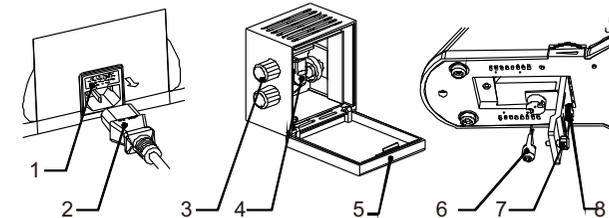

Fig.17
- (1) Turn off the power switch, and unplug the power cord2, as shown in Fig.17.
- (2) Wait at least 30 minutes until the bulb and its surroundings have cool down. This is to prevent hand getting burnt by heat.
- (3) a. Take out the screws6, and pull out the lamp house cover, take out the bad bulb4, and place the new one.
- (4) Connect the power cord and turn on power switch.
- (5) By the knob3 and loosen the adjustment screws7, The position of bulb can be adjust to the center.
The fuse is installed in the fuse socket 1, as shown in Fig.17, replace according the following steps.